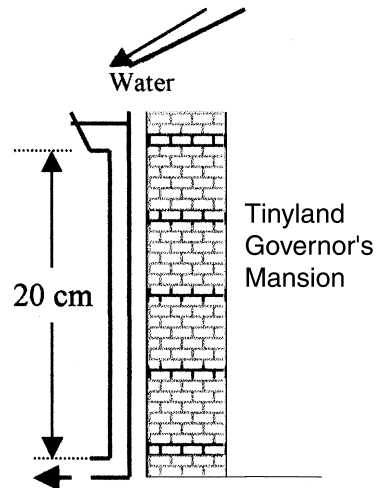

Fig. P6.21
6.21 In Tinyland, houses are less than a foot high! The rainfall is laminar! The drainpipe in Fig. P6.21 is only 2 mm in diameter. (a) When the gutter is full, what is the rate of draining? (b) The gutter is designed for a sudden rainstorm of up to 5 mm per hour. For this condition, what is the maximum roof area that can be drained successfully? (c) What is Re_d ?